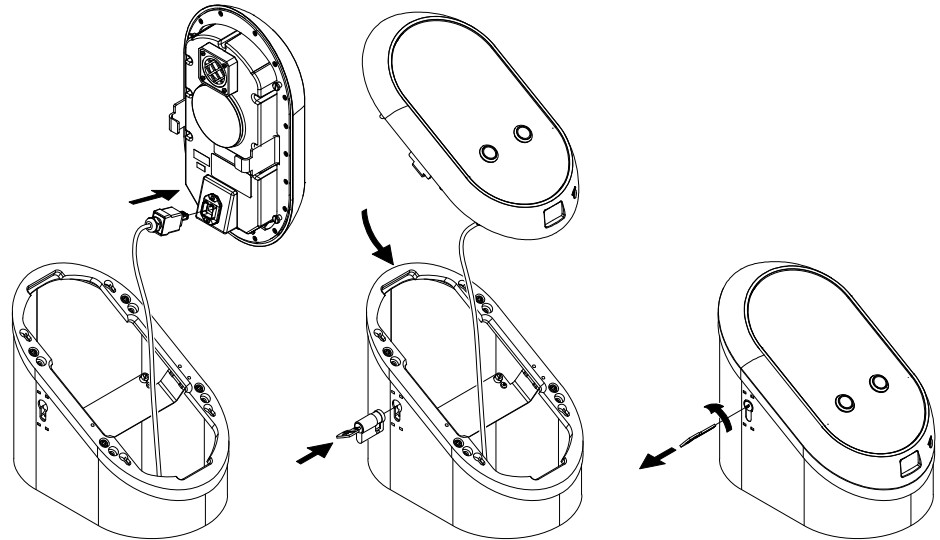

Figure 5-30 Main Unit Installation
- STEP 5:** Place the main unit on the stainless steel column and complete locking as shown in **Figure 5-30**.
STEP 6: Re-install the main unit (**Figure 5-30**).